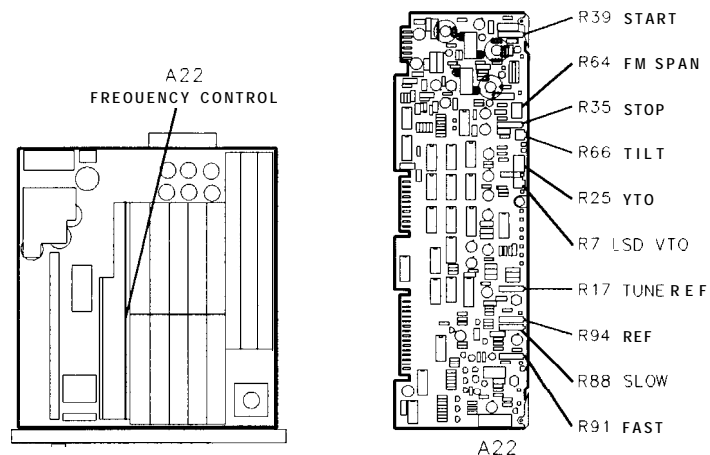

Figure 3-71. Location of Frequency Control Adjustments
- See Figure 3-71 for location of adjustment.
6. Adjust A22 TUNE REF A22R17 for DVM indication of -10.285 ± 0.001 V dc. See Figure 3-71 for location of adjustment.
16. Connect DVM to A22TP6 and ground to A22TP12. If using an HP 3456A DVM, press (STORE) (7)^Z, (ENTER EXP) (8)^Y, (0), (STORE) (8)^Y, then (MATH), (7) (X-Z)/Y. If not using an HP 3456A DVM, note voltage indication for reference later.
18. Adjust A22 YTO A22R25 for DVM indication of + 10.230 ±0.001 V dc. If not using an HP 3456A DVM, adjust for specified voltage plus the DVM indication noted in step 16. See Figure 3-71 for location of adjustment.
19. On the HP 3456A, Press (MATH) (0) OFF.
21. Key in (SHIFT) (CF STEP SIZE)^J 0 Hz. If using an HP 3456A DVM, press (STORE) (7)^Z, (ENTER EXP) (8)^Y, (0), (STORE) (8)^Y, then (MATH), (7) (X-Z)/Y. If not using an HP 3456A DVM, note voltage indication for reference later.
23. Adjust A22 LSD VTO A22R7 for DVM indication of +0.0218 ±0.0001 V dc. If not using an HP 3455A DVM, adjust for specified voltage plus the DVM indication in step 20. See Figure 3-71 for location of adjustment.
27. Adjust A22 START A22R39 for frequency counter indication of 2.050 GHz ± 0.002 GHz. See Figure 3-71 for location of adjustment.
29. Adjust A22 STOP A22 STOP A22R35 for frequency counter indication of 3.7891 ±0.002 GHz. See Figure 3-71 for location of adjustment.
32. Adjust A22 FM SPAN A22R64 so that the LO Feedthrough signal is centered on the left edge graticule and the 20 MHz CAL OUTPUT signal is centered on the right edge graticule. See Figure 3-71 for location of adjustment.